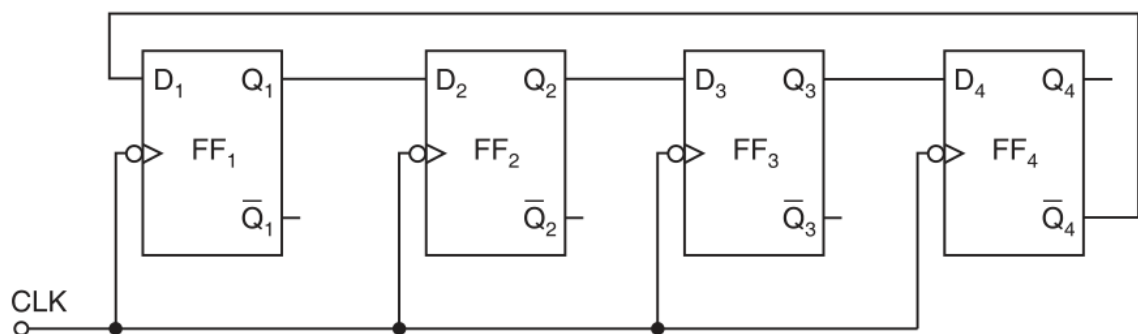

Figure 12.61 Logic diagram of a 4-bit twisted ring counter using D flip-flops.
2. The 4-Bit Johnson Counter (Twisted-Ring Counter) (Kumar, p. 698, Figure 12.61)
The logic diagram of a 4-bit Johnson counter using D FFs is shown in Figure 12.61. A realization of the same using J-K FFs is shown in Figure 12.62. The state diagram and the table are shown in Figure 12.63. The timing diagram of a Johnson counter is shown in Figure 12.64.